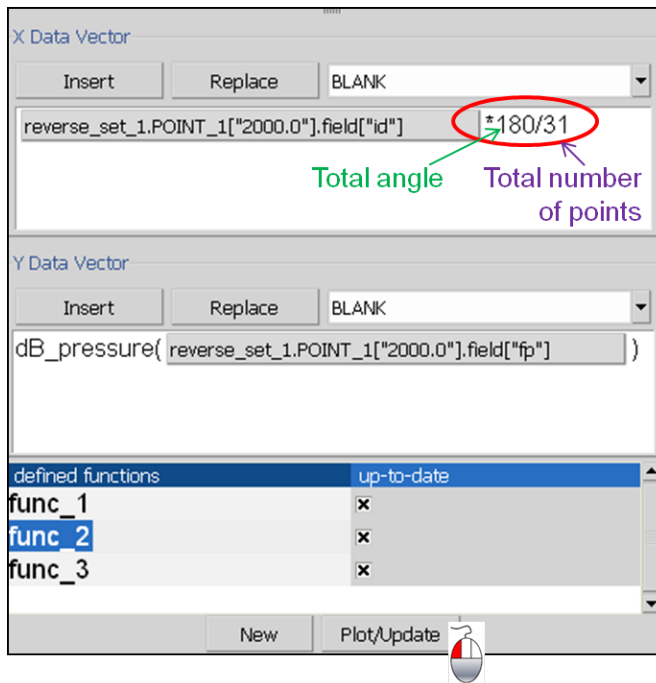

Figure 6.46: Edit the function of the directivity curves
- *Edit the functions of both directivity curves, in order to reflect the real angle of the series of the field points, as described in Figure 6.46. Click on Plot/Update after function edition.*